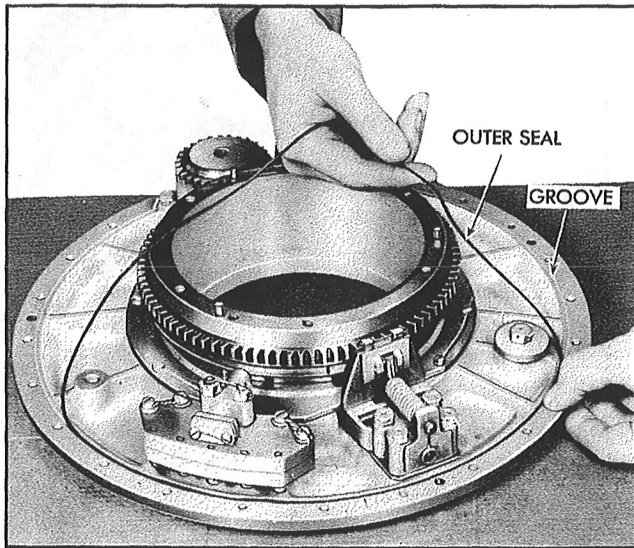

Figure 158—Installation of the Seal Ring
*Step 21.*—Insert the regulator seal ring (cover outer seal) into the groove of the regulator housing, see Figure 158. Place the seal in the groove loosely, then cut the seal 3/8 of an inch oversize and assemble with a compression at the butt joint.